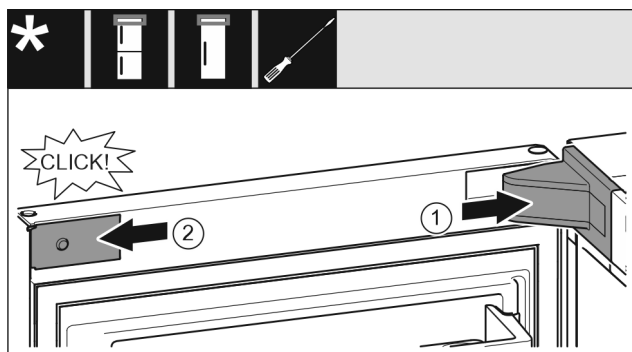

Fig. 21
- Put the swap bearing block cover Fig. 21 (1) on and engage, push apart carefully if required.
- Place the trim Fig. 21 (2) on the side and engage.